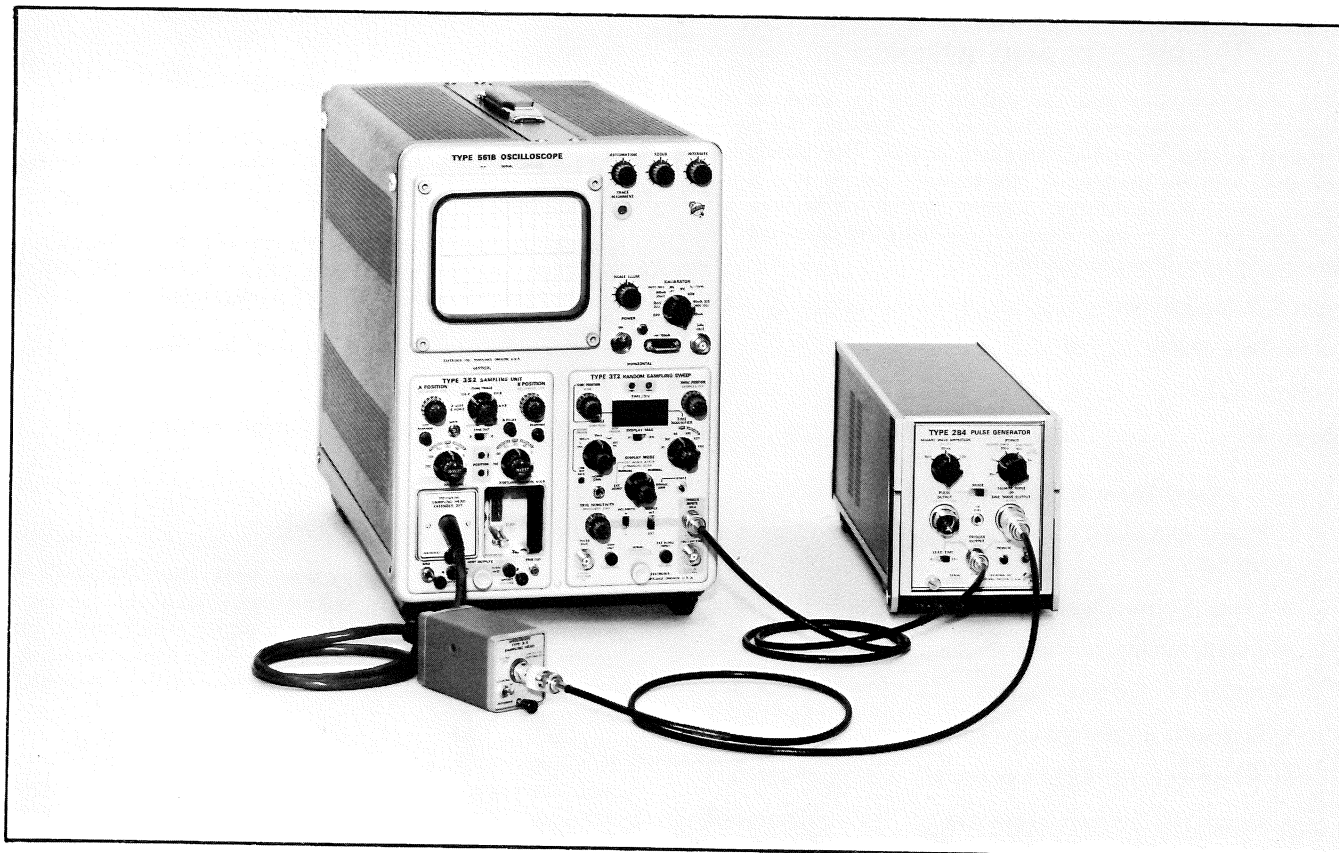

Fig. 5-2. Initial equipment setup.
d. Set the controls as listed following Fig. 5-2.